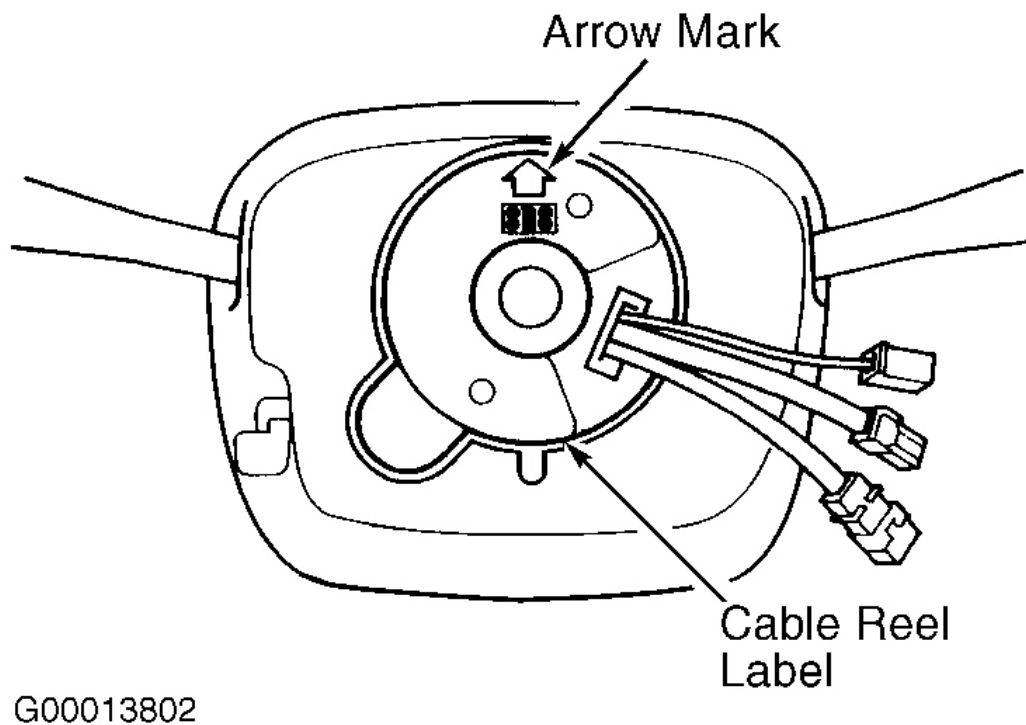

Fig. 6: Centering Cable Reel
2. Arrow mark on cable reel should point straight up. See **Fig. 6** . Install steering wheel, ensure steering wheel shaft engages cable reel and canceling sleeve. To complete installation, reverse removal procedure. Install air bag. Install new Torx bolts and tighten to 88 INCH lbs. (10 N.m). Reactivate air bag system.